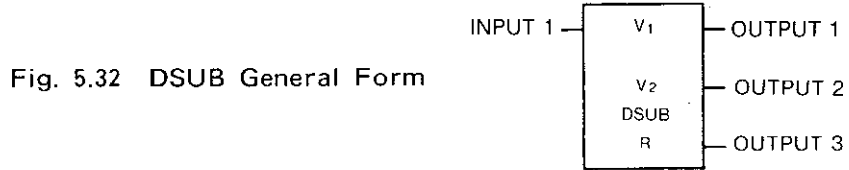

Fig. 5.32 DSUB General Form
(2) Form
- Fig. 5.32 shows the form of double-precision subtraction (DSUB).